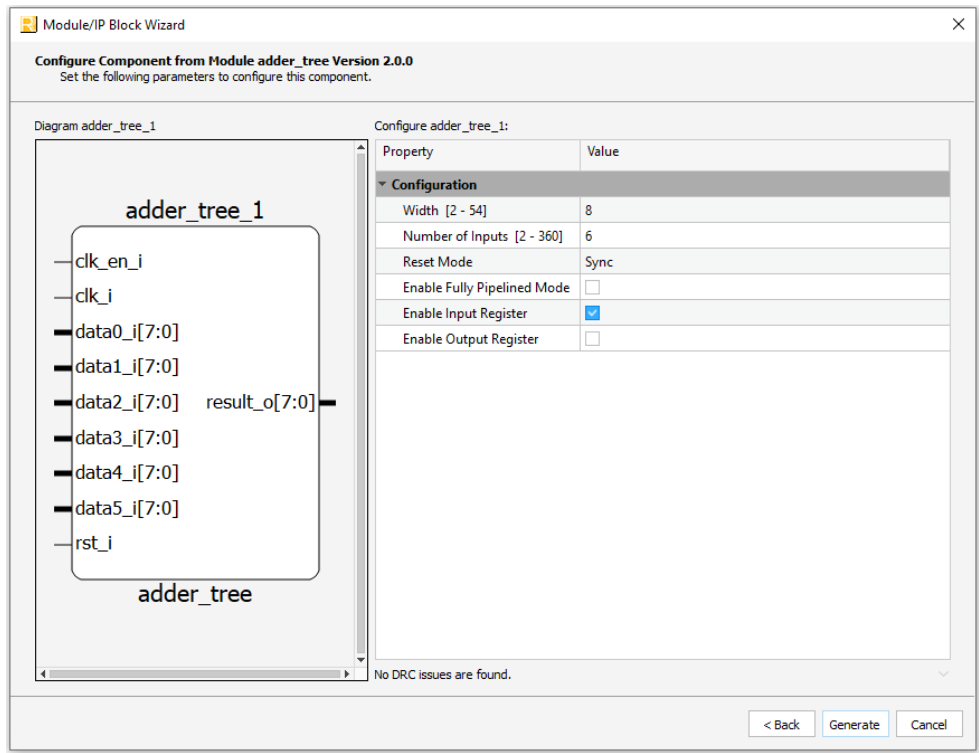

Figure 3.2. Configure User Interface of Adder Tree Module
4. In the module’s dialog box, customize the selected Adder Tree module. A sample configuration is shown in Figure 3.2. For configuration options, see the Attribute Summary section.
IP Generation, Simulation, and Validation	- Removed “Licensing the IP” section. - Updated title of the Section 3.1 from “Generating and Synthesizing” to “Generating the IP”. - Added Figure 3.2. Configure User Interface of Adder Tree Module.